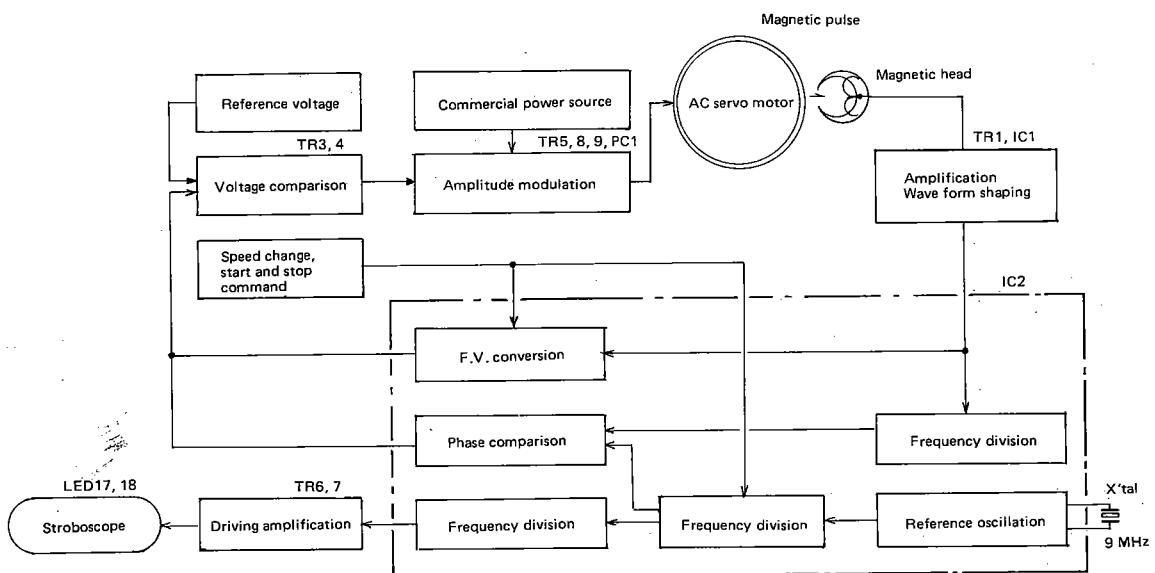

Fig. 3 Phono Motor Servo Block Diagram
- (1) Connect the respective probes of the dual trace oscilloscope to the test terminals for rotation adjustment, TP1 and TP3 to observe the wave form (earth ground terminal TP2) on motor drive P.W.B.
- (2) Turn 33/45 selector switch of front panel (— 33 ■ 45) to ■ 45.
- (3) Adjust the wave form as shown in Fig. 3 by means of "VR1" 45 rotation VR.
- (4) Turn the 33/45 selector switch on the front panel to — 33.
- (5) Adjust the wave form as shown in Fig. 3 by means of "VR2" 33 rotation VR.